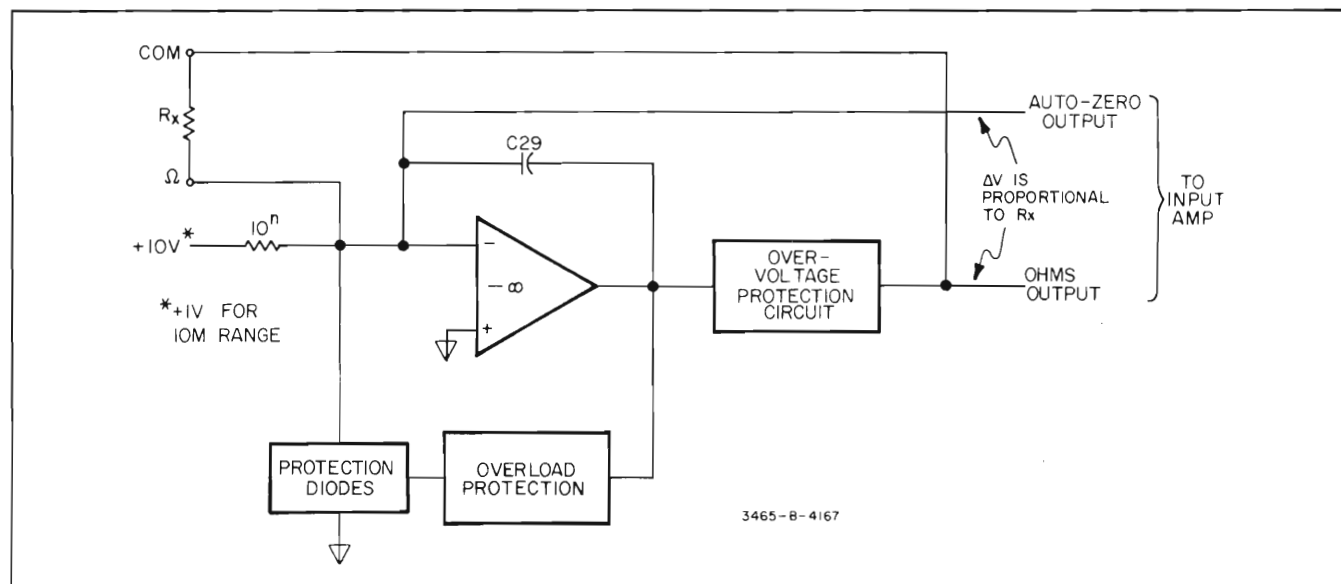

Figure 4-2. Simplified Diagram, Ohms Converter.
4-11. **Ohms Converter.** The ohms converter is a high gain integrating amplifier. A simplified diagram of the ohms converter is presented in Figure 4-2. The blocks of the ohms converter are the integrating amplifier, protection diodes, over-voltage protection circuit and the overload loop. An integrating amplifier is used because this type of amplifier is less susceptible to oscillations. The protection diodes clamp the HI terminal to a voltage of about +1.2 V in the positive direction or -0.7 V in the negative direction.
4-12. Figure 4-2 shows two outputs of the ohms converter being applied to the input amplifier. The ohms output is the ohms converter measurement signal and the auto-zero output is the ohms amplifier dc offset signal which is called the auto-zero (AZ) signal. This AZ signal is applied to the input amplifier during the auto-zero interval of the measurement sequence and establishes the reference for the analog-to-digital converter. An AZ signal greater than  $\pm 1$  mV causes the instrument readings to be invalid. This condition (AZ signal  $> \pm 1$  mV) is present when the unknown resistance,  $R_x$ , is removed and an open loop is present on the ohms amplifier. To maintain the AZ signal at  $< \pm 1$  mV when an open loop is present, an overload feedback circuit is used.